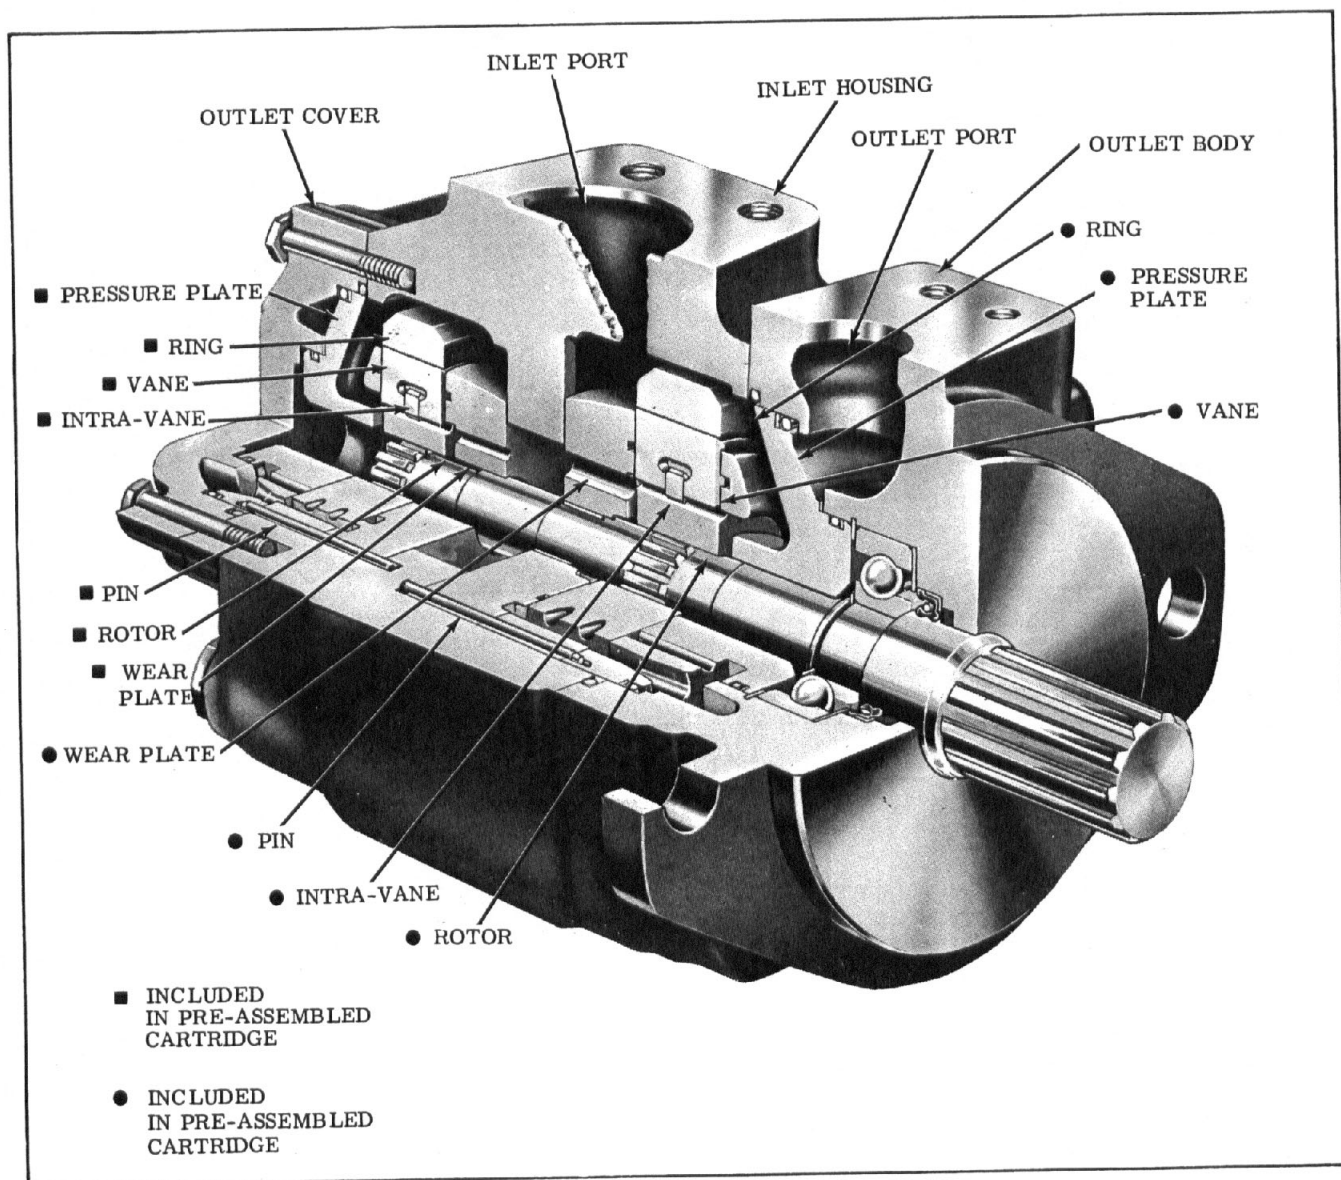

Figure 1 - Cutaway View of Typical Double Pump
1. Basic Pump - The pump illustrated in Figure 1 is representative of all double pumps in these series. The unit consists principally of an outlet body, inlet housing, outlet cover, driveshaft and two pumping cartridges. The principal components of each cartridge are an elliptical cam ring, a slotted rotor splined to the driveshaft, a pressure plate,